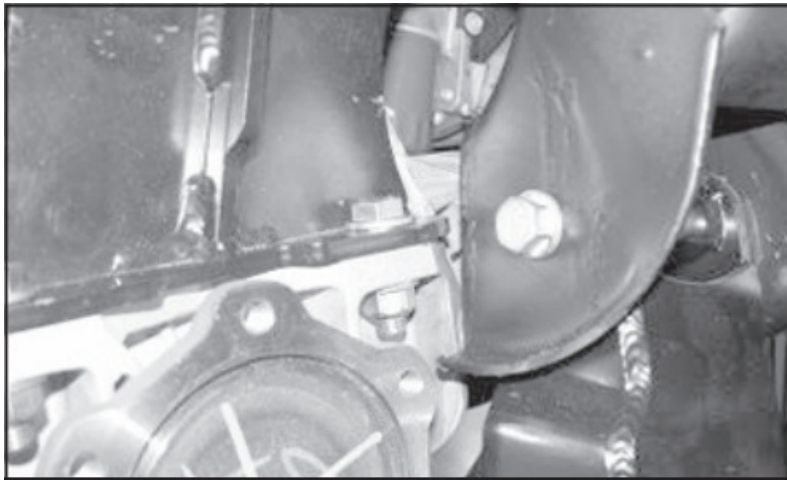

FIGURE 25 - STEP 20
20. Locate and install FT20611BK rear crossmember into the factory lower control arm pockets using the stock hardware and leave it loose at this time. (CHECK THE CLEARANCE OF THE DIFF TO CROSSMEMBER WHERE IT WAS SANDED DOWN IN STEP #17 FOR ADEQUATE CLEARANCE TO THE FRAME AND CROSSMEMBER). SEE FIGURE 25